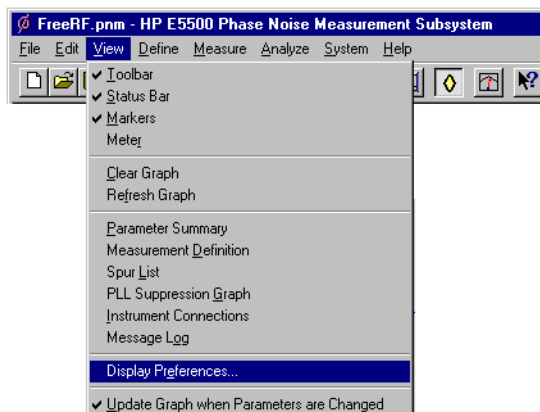

Figure 5-36 Navigate to Display Preferences
- 1 On the **View** menu, click **Display Preferences**. See Figure 5-36.